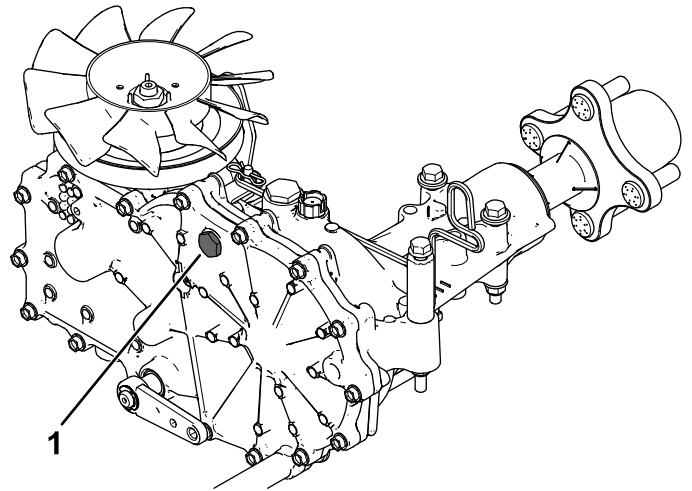
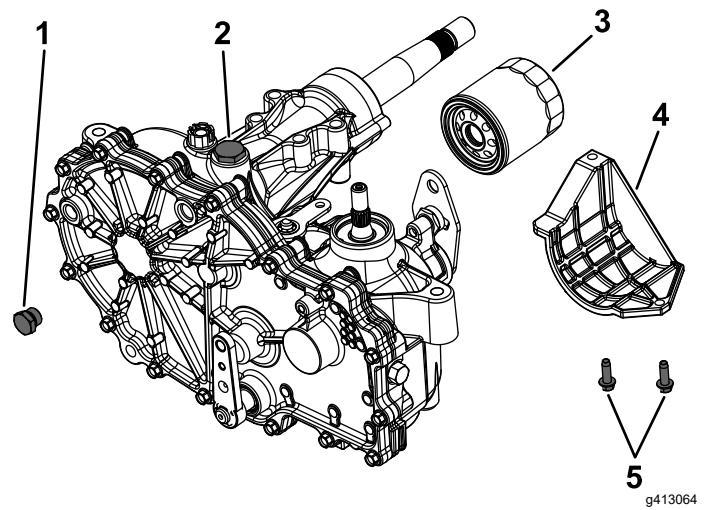

Figure 71
Figure 72
2. Remove the transaxle top port plug from each side and ensure that fluid appears at the bottom of each transaxle top port (Figure 71).
If necessary, add Toro® HYPR-OIL™ 500 hydraulic fluid through the fill port until the fluid appears at the bottom of each transaxle top port (Figure 71 and Figure 72).
4. Locate the filter and guards on each transaxle-drive system (Figure 72).
5. Remove the 3 screws securing the filter guard and guard (Figure 72).
7. Remove the top port plug (Figure 72) from the left side and right side transaxles prior to filling with oil.
9. Install the top port plug into each transaxle as the oil level reaches this port (Figure 72).